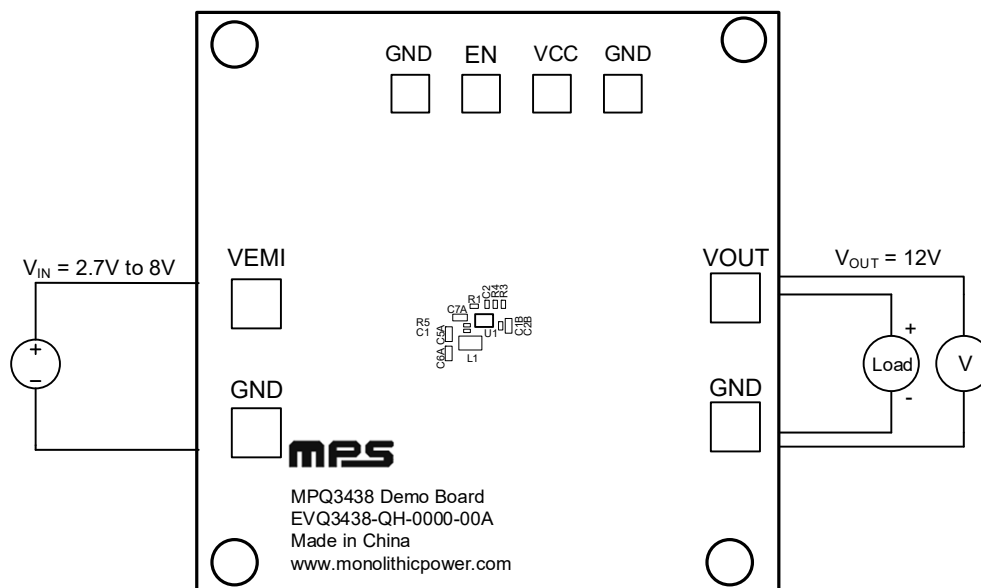

Figure 2: Measurement Equipment Set-Up
3. Connect the power supply terminals to (see Figure 2 on page 4):
4. Connect the load terminals to (see Figure 2 on page 4):
Figure 2 shows the measurement equipment set-up.